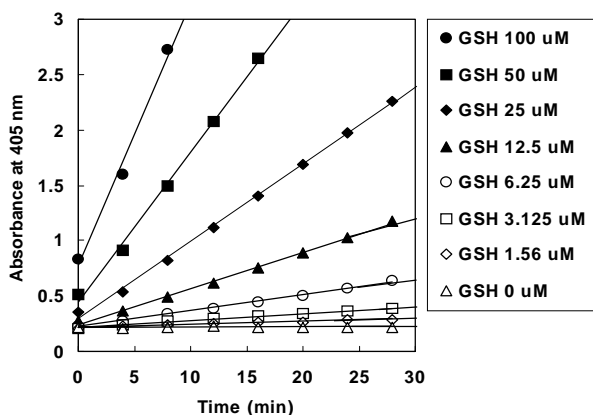
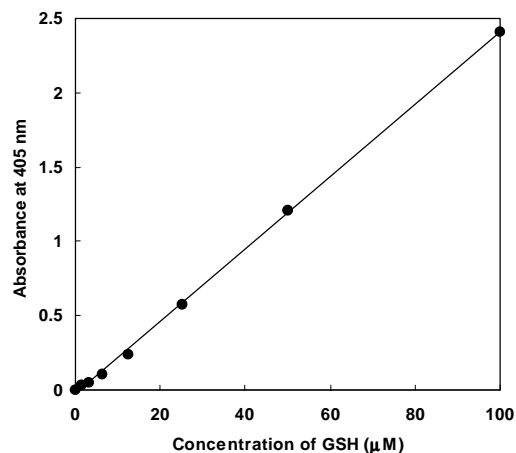

Figure 4. Time course of DTNB colorimetric reaction\* in various concentrations of GSH.
Figure 5. Calibration curve prepared using pseudo-end point method (10 min incubation at room temperature)
*b) Since the colorimetric reaction is stable and the O.D. increases linearly over 30 min, GSH concentration can be determined by using kinetic or pseudo-endpoint (no stopping reaction, quick measurement of the O.D. at certain time points between 5 and 10 min) methods. A time course of the colorimetric reaction is shown in figure 4. Typical calibration curves prepared using the kinetic method and the pseudo-endpoint method are indicated in Figure 5 and 6, respectively.*
b) Since the colorimetric reaction is stable and the O.D. increases linearly over 30 min, GSH concentration can be determined by using kinetic or pseudo-endpoint (no stopping reaction, quick measurement of the O.D. at certain time points between 5 and 10 min) methods. A time course of the colorimetric reaction is shown in figure 4. Typical calibration curves prepared using the kinetic method and the pseudo-endpoint method are indicated in Figure 5 and 6, respectively.